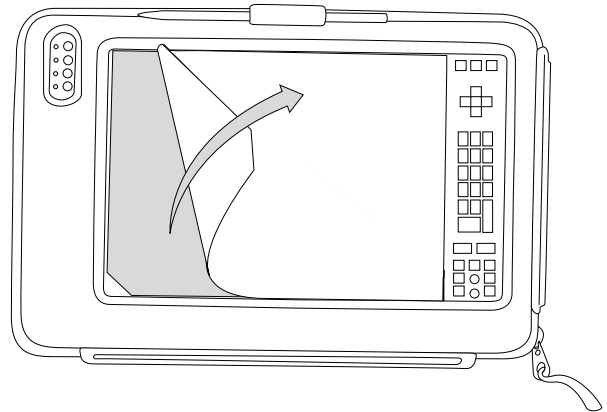

Figure 7. Peeling the Protective Film
- Remove the protective film from the top surface of the screen protector as shown in Figure 7.